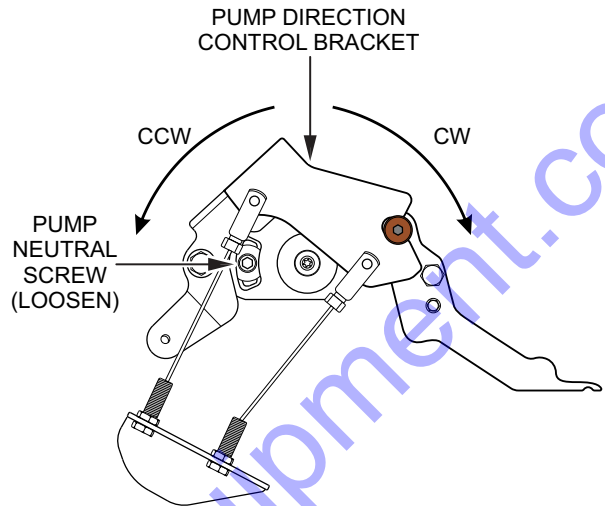

Figure 54. Pump Neutral Setting Screw
5. Using a 3/16-inch allen wrench, loosen the pump neutral setting screw (Figure 54).
6. Slightly move the **pump direction control bracket** (Figure 54) either CW or CCW. Tighten pump neutral setting screw.